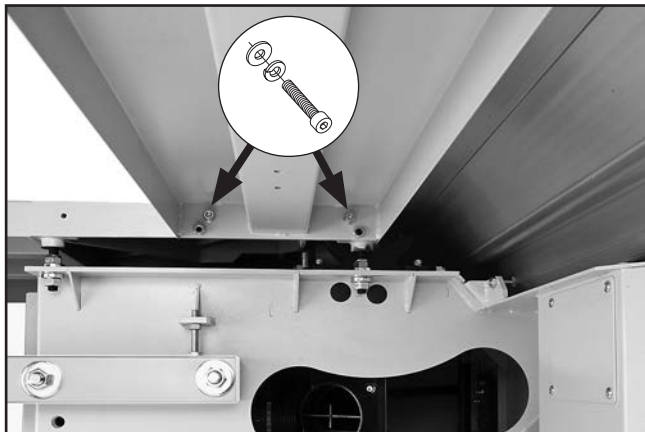

Figure 29. Underside view of large extension table attached to cabinet.
14. Attach small extension table to cast iron table using (2) pre-installed M10-1.5 x 25 cap screws, 10mm lock washers, and 10mm flat washers (see **Figure 29**). Only hand tighten for now. They will be fully tightened in a later step.